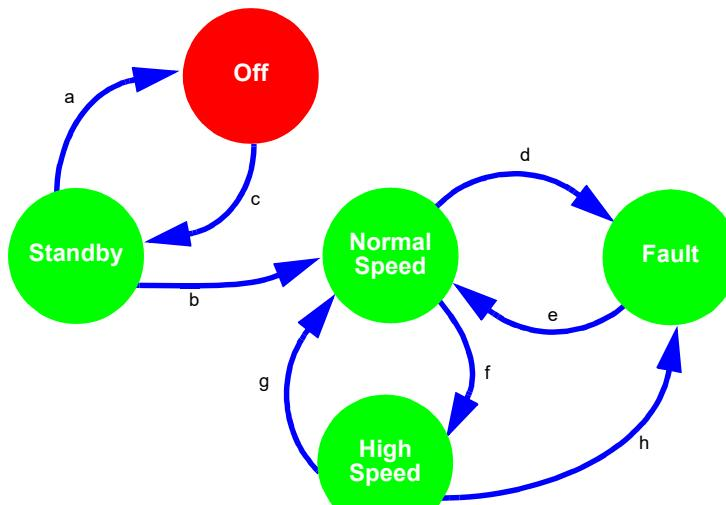

Figure 95: Asynchronous State Machine State Transitions
The Asynchronous State Machine macrocell is one of several macrocells in the Asynchronous State Machine Subsystem, and its specific role is to hold one active state at a time, and to facilitate user defined state transitions in a fast and power efficient manner. This macrocell is designed to allow the user to create state machines with between 2 to 12 states. When combined with the other macrocells in the ASM subsystem [four Dynamic Memory (DMx_X) macrocells, three Matrix Interface (MIx) macrocells, and one f(1) Computation Macrocell], the user has flexibility to define the available states, the available state transitions, and the input signals (a, b, c ...) that will cause transitions from one state to another state, as shown in the example in Figure 95.